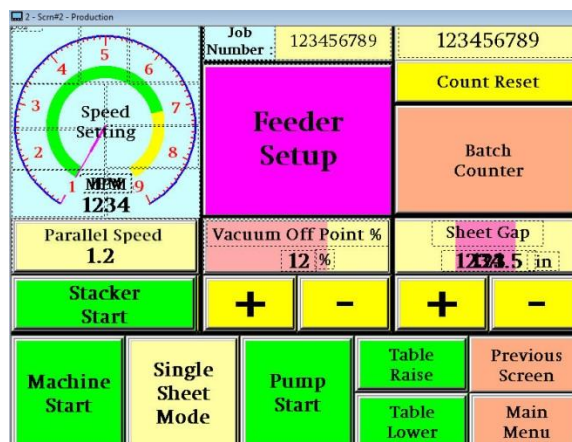
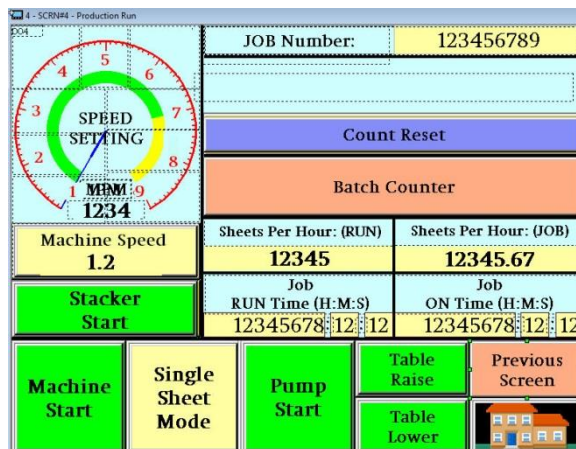

Figure 9
Figure 19
To lower the table to manually load paper, use the **Table Lower** button. You need to hold the button briefly to initiate movement. See figure 9. The table will continue down until it makes the lower limit switch or you may choose to press “**Stop table**” before it gets to the lower limit.
See Figure 9.
The second screen that can be used to run jobs is the **production screen**. (The first screen was the **home screen**). To access the **production screen** start from the **home screen** and press the current count numeric value in the upper right corner. See figure 9.
This screen has **Sheets per Hour: (RUN)**, **Sheets Per Hour: (Job)**, **Run time**, and **Job time** available. The current count numeric value is displayed larger and moved down a row. In figure 19 this area is shown blank, but in the real screen, it will have the current count number. To change back to the home screen you can press the current count numeric value on this screen.
1. Start from either the **home** or **production screen**. See figure 9 for home or figure 19 for production screen.
1. To setup batch count start from either the **home screen** or the **production screen**. See figure 9 for home screen or figure 19 for the production screen.
1. Start from either the **home screen** or the **production screen**. See figure 9 for the home screen or figure 19 for the production screen.